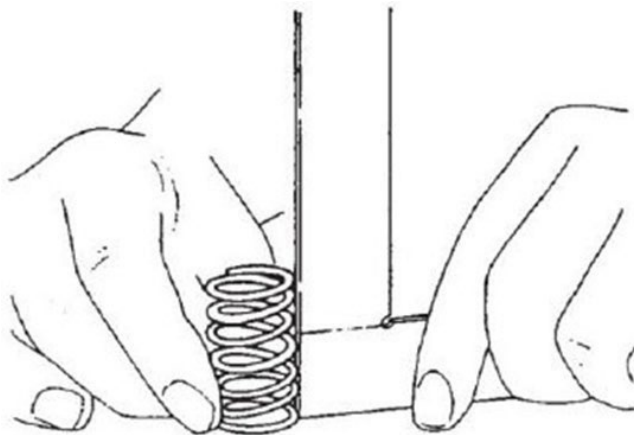

Figure 73. Valve Spring Squareness Measurement
4. Use a flat surface and a square to check each spring for squareness (Figure 73). See Valve Spring specification chart for the service limit.